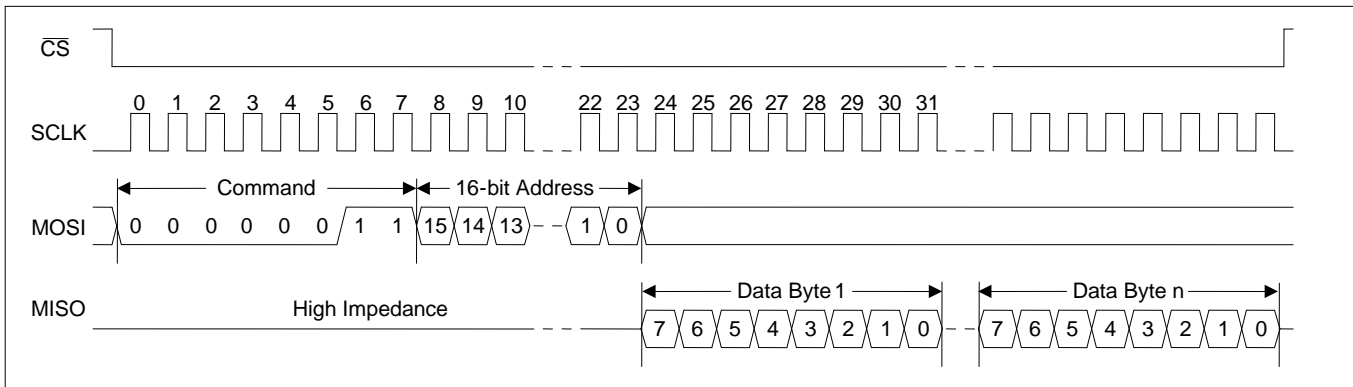

Figure 7 - SPI Read Transaction Functional Timing
**Read Transactions.** The device registers are accessible when **EESEL=0**. On a ZL30251 the internal EEPROM memory is accessible when **EESEL=1**. On a ZL30250 **EESEL** must be set to 0. After driving CSN low, the bus master transmits the read command followed by the 16-bit address. The device then responds with the requested data byte on MISO, increments its address counter, and prefetches the next data byte. If the bus master continues to demand data, the device continues to provide the data on MISO, increment its address counter, and prefetch the following byte. The read transaction is completed when the bus master drives CSN high. See Figure 7.
**Read Transactions.** After driving CSN low, the device transmits the read command followed by the 16-bit register address. The external EEPROM then responds with the requested data byte on MISO, increments its address counter, and prefetches the next data byte. If the device continues to demand data, the EEPROM continues to provide the data on MISO, increment its address counter, and prefetch the following byte. The read transaction is completed when the device drives CSN high. See Figure 7.